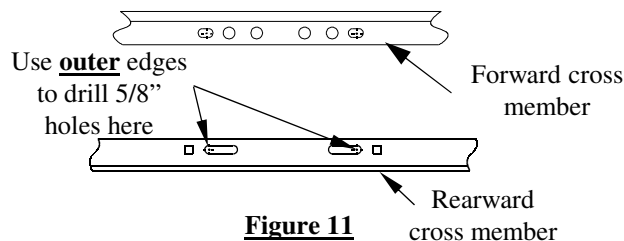

Figure 11
10. For 6300/630044 & 8339 use the **outer** edges of the long slots in the rearward cross member as a template to drill 5/8" diameter holes through the truck bed as shown in Figure 11. Due to the fuel tank, not all holes can be drilled from under the vehicle, but should be done later from inside the bed.